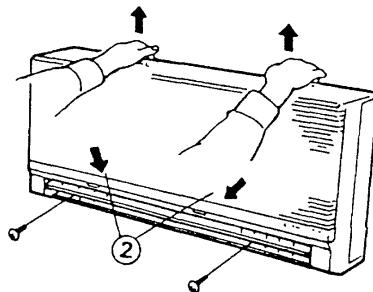

Fig. 1
- 2) Pull up the casing by hand, press down on tabs on top, then withdraw the casing by pulling it back straight. Fig. 1 .
When replacing the removed casing as it was before, push two positions as shown in Fig. 1 ② until the casing clicks properly.